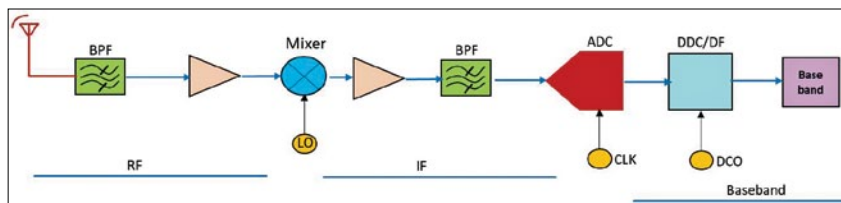

Figure 1
A typical radio receiver design based on heterodyne conversion (IF) is shown in Figure 1.
The modulated RF carrier is passed through a low-noise amplifier (LNA) and band-pass filter (BPF) before converting to IF as shown in Figure 1. After passing through an anti-aliasing filter (AAF) the IF is digitised by the ADC. Demodulation is carried out at the baseband level.